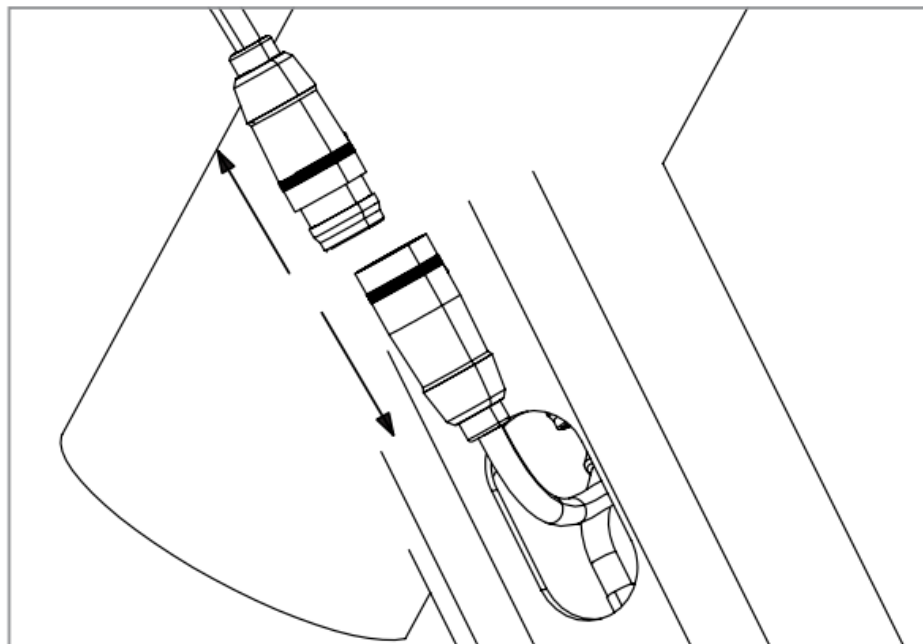

Figure 10
- c. Disconnect the iWOC Trio controller cable from the battery cable extending from the downtube (Figure 10).